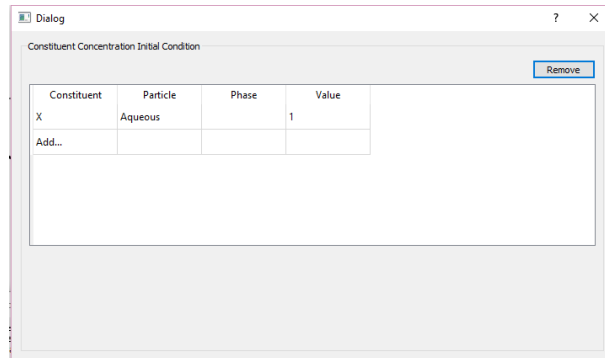

Figure 4.12: Setting initial biomass concentration in the simple activated sludge model
9. **Biomass initial condition:** There should be some biomass in the clarifier initially for the biomass growth to be possible. We will start from a small ($1mg/L$) concentration of biomass. Click on the **Aeration tank** and in **Properties** click on the box in front of **Constituent Initial Concentration**. From the window that will pop up, select X as the constituent and enter the value 1 then close the window (Figure 4.12).